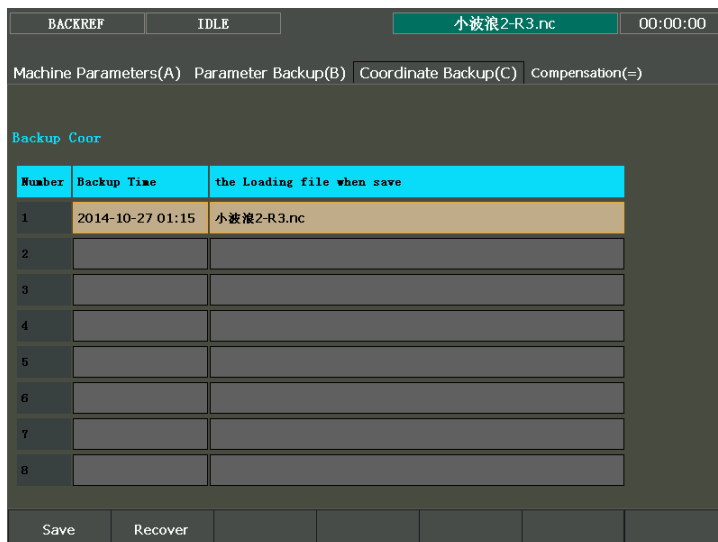

Fig. 3-75 Coordinate Backup Interface
[Coordinate Backup (C)] screen under [Parameter] function section is as shown in Fig. 3-75.